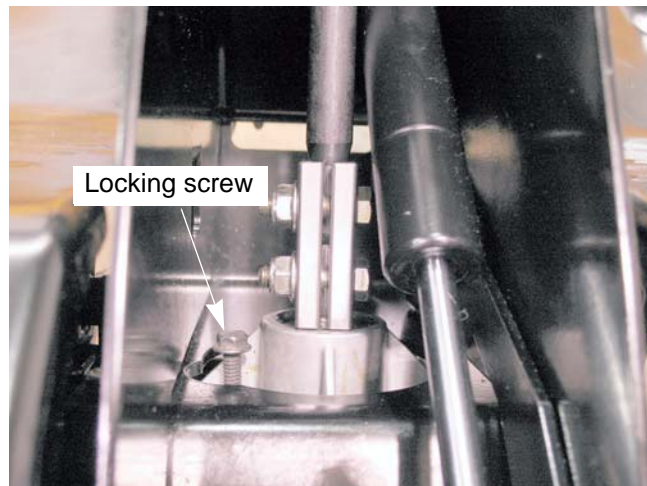

Figure 6.2
- 2a. Remove the 1/4"-20 plug screw from the steering gear box centering port using a 3/8" wrench. See Figure 6.2.